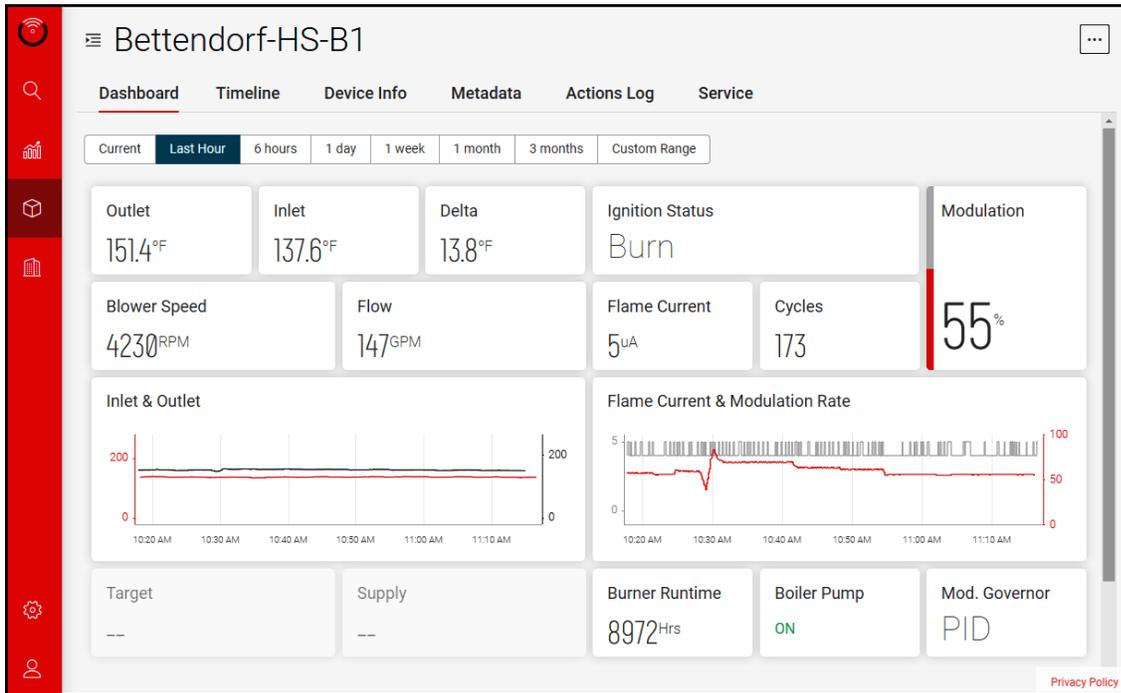

Figure 61. Select Metadata
1. Select "Metadata" on the top menu. See **Figure 61**.